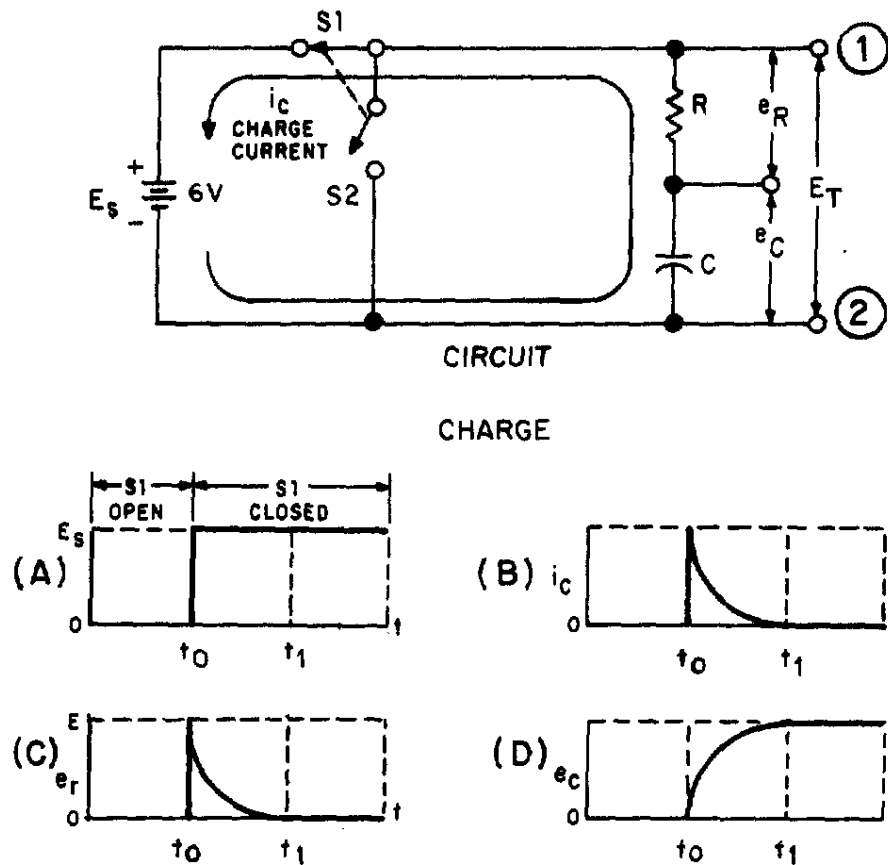
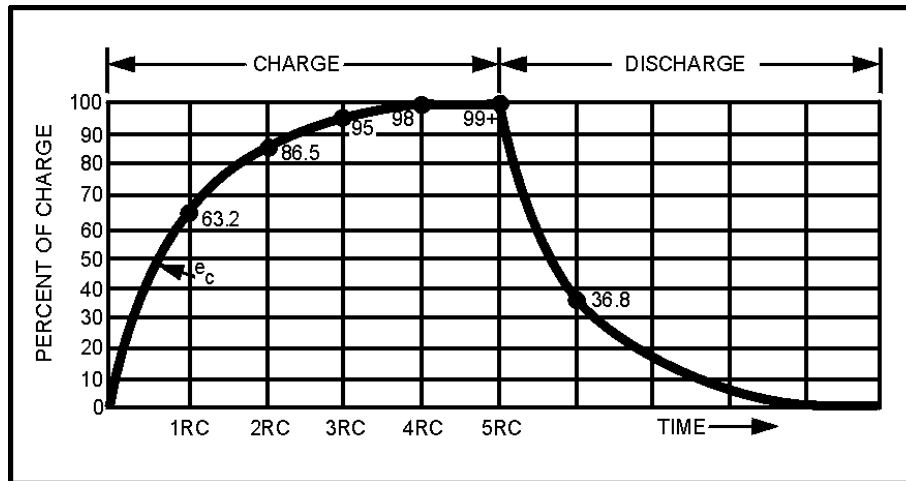

Figure 3-9.—Charge of an RC series circuit.
Figure 3-11.—RC time constant.
A voltage divider containing resistance and capacitance is connected in a circuit by means of a switch, as shown at the top of figure 3-9. Such a series arrangement is called an RC series circuit.
When switch S1 of the circuit in figure 3-9 is closed at t_0 , the source voltage (E_s) is instantly felt across the entire circuit. Graph (A) of the figure shows an instantaneous rise at time t_0 from zero to source voltage ($E_s = 6$ volts). The total voltage can be measured across the circuit between points 1 and 2. Now look at graph (B) which represents the charging current in the capacitor (i_c). At time t_0 , charging current is MAXIMUM. As time elapses toward time t_1 , there is a continuous decrease in current flowing into the capacitor. The decreasing flow is caused by the voltage buildup across the capacitor. At time t_1 , current flowing in the capacitor stops. At this time, the capacitor has reached full charge and has stored maximum energy in its electrostatic field. Graph (C) represents the voltage drop (e) across the resistor (R). The value of e_r is determined by the amount of current flowing through the resistor on its way to the capacitor. At time t_0 the current flowing to the capacitor is maximum. Thus, the voltage drop across the resistor is maximum ($E = IR$). As time progresses toward time t_1 , the current flowing to the capacitor steadily decreases and causes the voltage developed across the resistor (R) to steadily decrease. When time t_1 is reached, current flowing to the capacitor is stopped and the voltage developed across the resistor has decreased to zero.
The time required to charge a capacitor to 63 percent (actually 63.2 percent) of full charge or to discharge it to 37 percent (actually 36.8 percent) of its initial voltage is known as the TIME CONSTANT (TC) of the circuit. The charge and discharge curves of a capacitor are shown in figure 3-11. Note that the charge curve is like the curve in figure 3-9, graph (D), and the discharge curve like the curve in figure 3-9, graph (B).
The graphs shown in figure 3-11 and 3-12 are not entirely complete. That is, the charge or discharge (or the growth or decay) is not quite complete in 5 RC or 5 L/R time constants. However, when the values reach 0.99 of the maximum (corresponding to 5 RC or 5 L/R), the graphs may be considered accurate enough for all practical purposes.